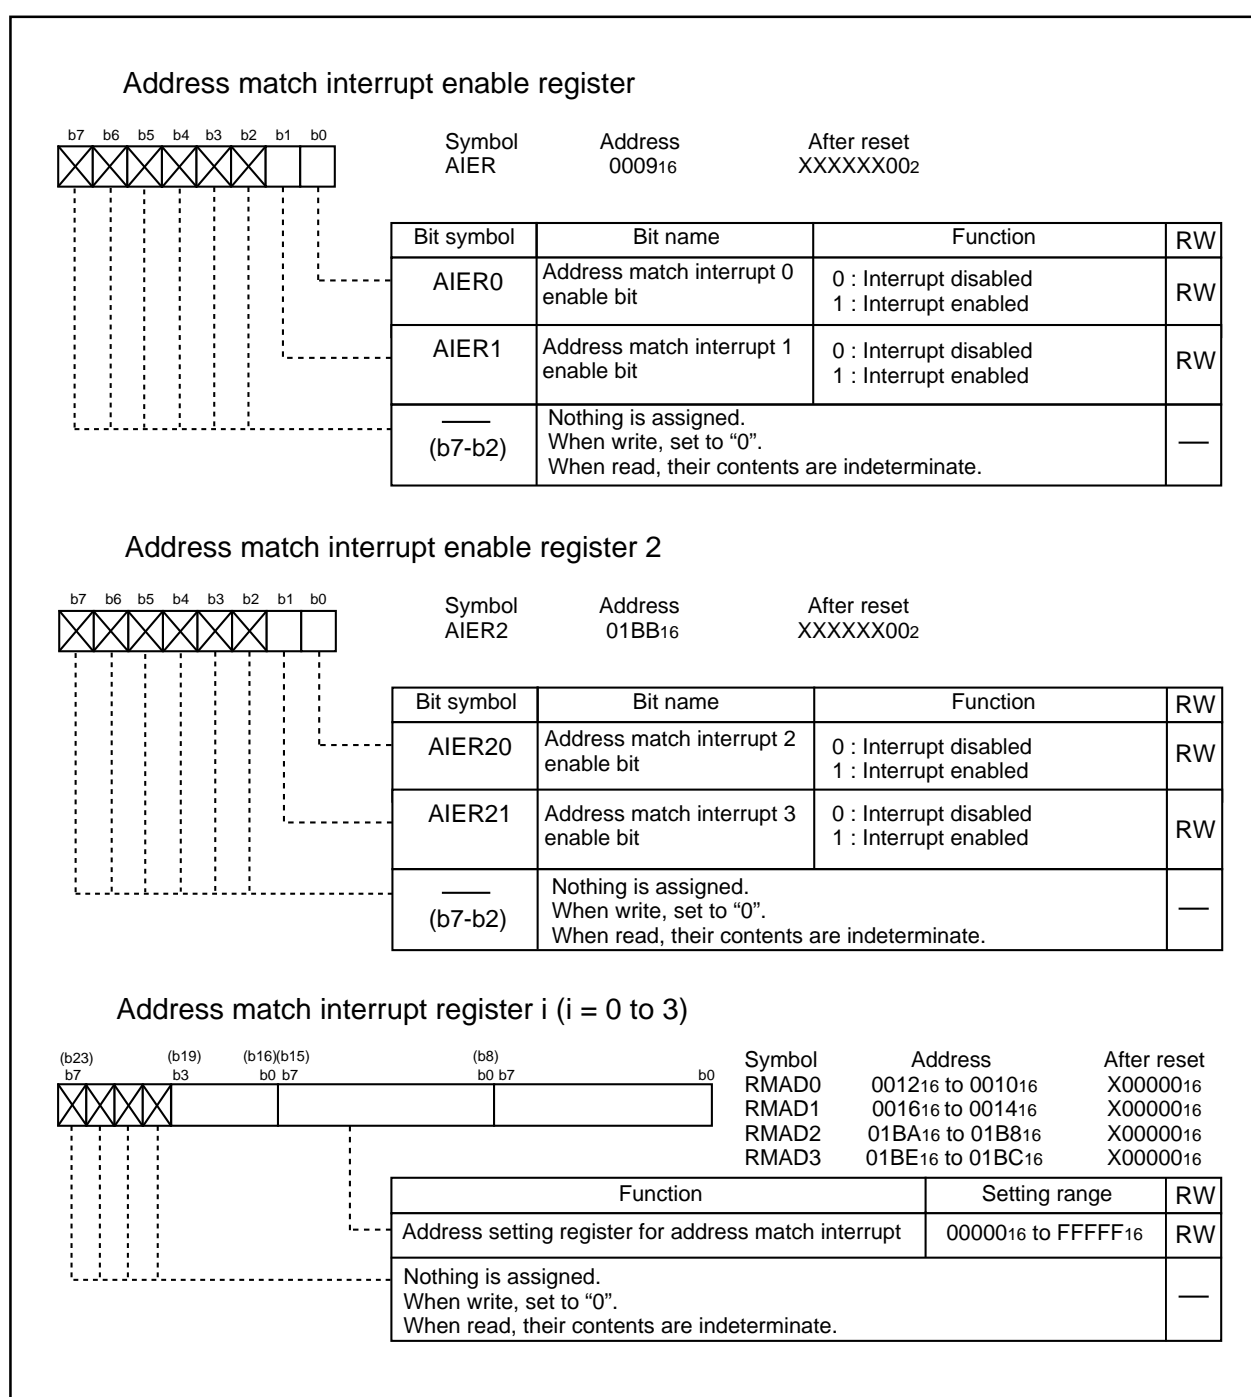

Figure 1.11.13. AIER Register, AIER2 Register and RMAD0 to RMAD3 Registers
Figure 1.11.13 shows the AIER, AIER2, and RMAD0 to RMAD3 registers.
(2) SP Setting
- When the polarity of the $\overline{\text{INT}}_0$ to $\overline{\text{INT}}_5$ pins is changed, the IR bit is sometimes set to "1" (=interrupt requested). After changing the polarity, set the IR bit to "0" (=interrupt not requested). Figure 1.11.13 shows the procedure for changing the $\overline{\text{INT}}$ interrupt generate factor.